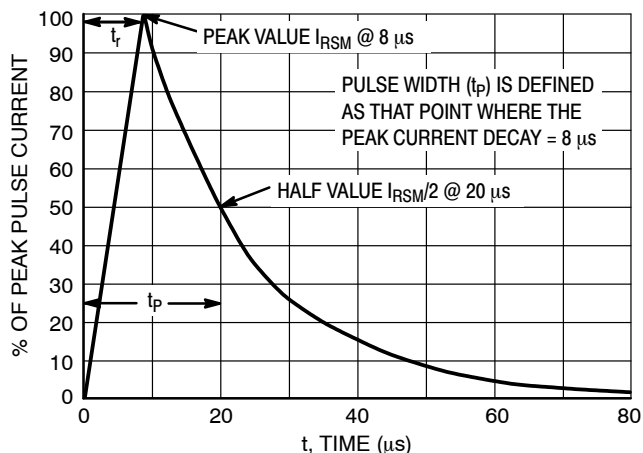

Figure 5. 8 X 20 μ s Pulse Waveform
4. Surge current waveform per Figure 5.